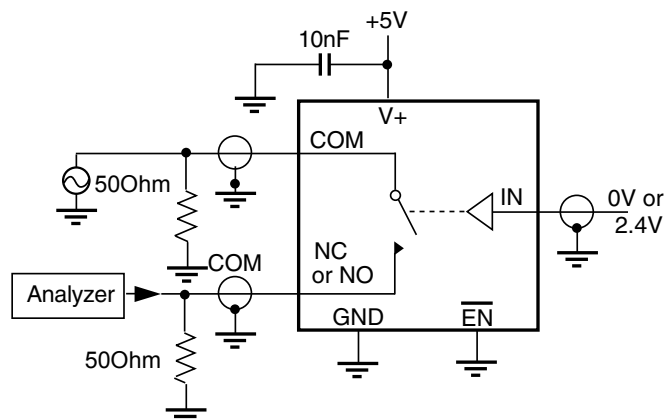

Figure 3. Off Isolation
7. Off Isolation = $20\log_{10} [V_{COM} / (V_{NO} \text{ or } V_{NC})]$. See figure 3.